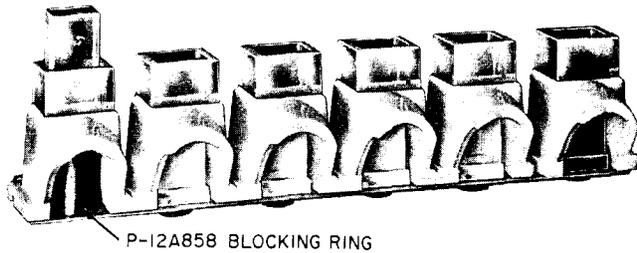

Fig. 8—P-12A858 Blocking Ring Installed
3.03 Unused buttons may be blocked with a P-12A858 blocking ring. Insert as shown in Fig. 8.